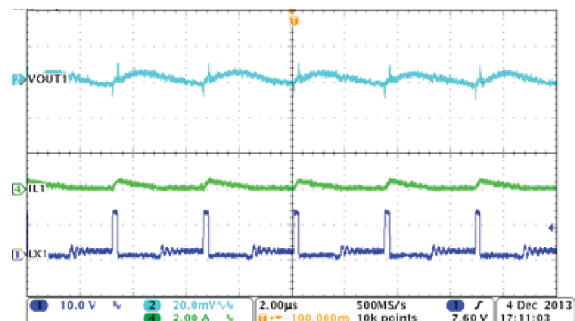
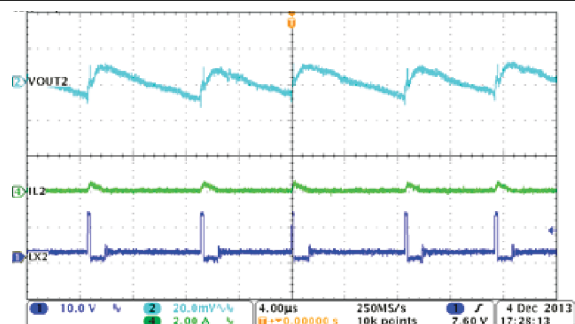
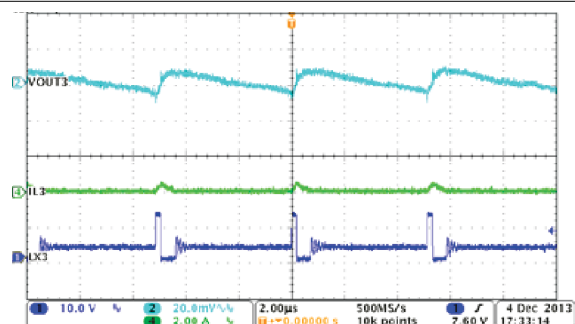

Figure 8-9. Buck1, Steady State Operation With Light Load
Figure 8-11. Buck2, Steady State Operation With Light Load
Figure 8-13. Buck3, Steady State Operation With Light Load
The device is designed to operate in high-efficiency PSM under light load conditions. Pulse skipping is initiated when the switch current falls to 0.23 A. During pulse skipping, the low-side FET is turned off. The switching node (LX) waveform takes on the characteristics of DCM operation and the apparent switching frequency decreases as shown in Figure 8-9, Figure 8-11, and Figure 8-13.